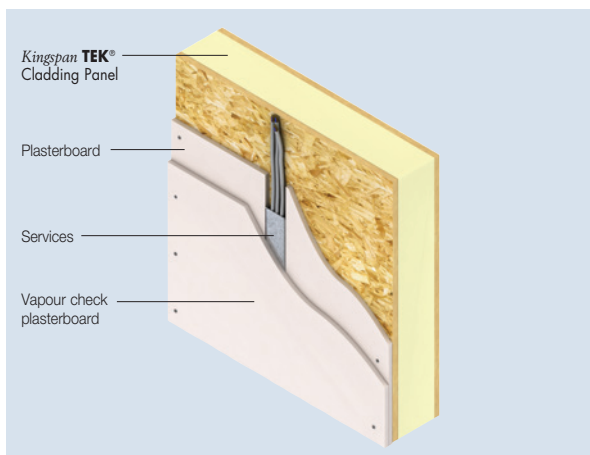

Figure 8
- a double layer of 12.5 mm plasterboard – the layer closest to the **Kingspan TEK®** Cladding Panel should be chased out to create a cavity for services. The second layer should be 12.5 mm vapour check plasterboard (see Figure 8).